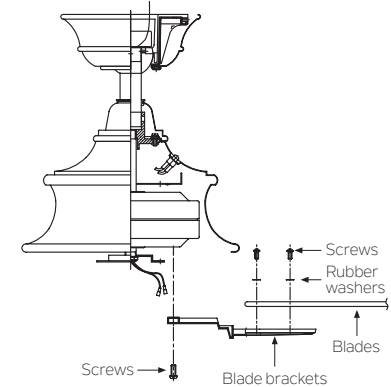

Fig. 16
Step 1. Attach a blade to a blade bracket using the screws and rubber washers provided. (Fig.16)
Step 2. Attach each blade assembly to the motor using the “Pre-Installed” mounting screws in the blade bracket. (Fig 16)